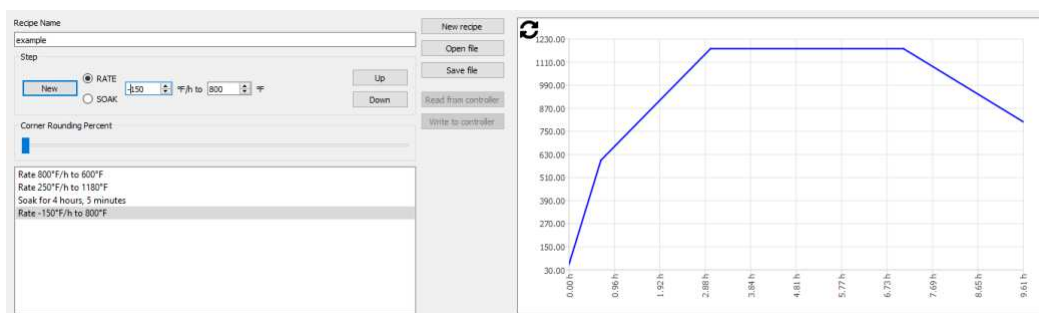

Figure 76: Recipe Editor – 'Negative Rate' Step
7. If your heat cycle parameters require a controlled cooling step, add another 'Rate' step and set a negative ramp rate as well as the temperature the piece must cool to before the cycle ends. An example of this is shown in Figure 76 below.